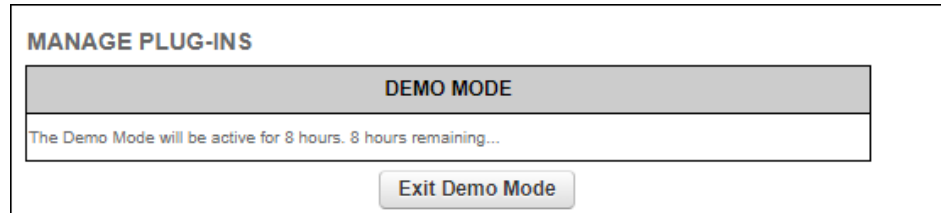

Figure 56. MANAGE PLUG-INS dialog (Demo Mode activated)
- The **Demo Mode** activation dialog will be shown (Figure 56 \(page 137\)). A countdown timer shows how much Demo time remains.